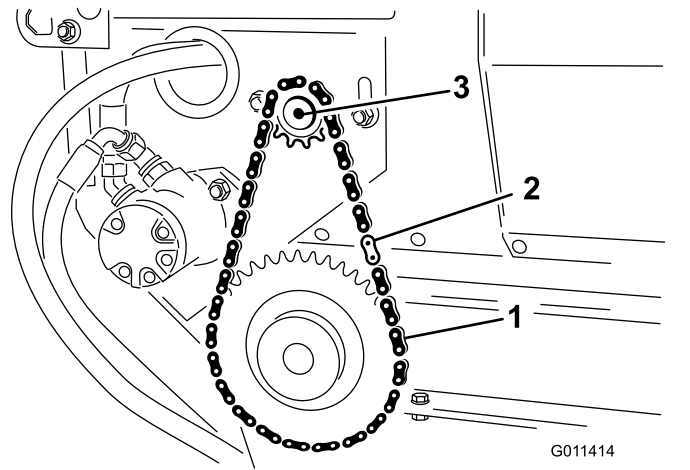

Figure 30
- 2. Remove the master link from the chain and remove the chain from the small sprocket (Figure 30).